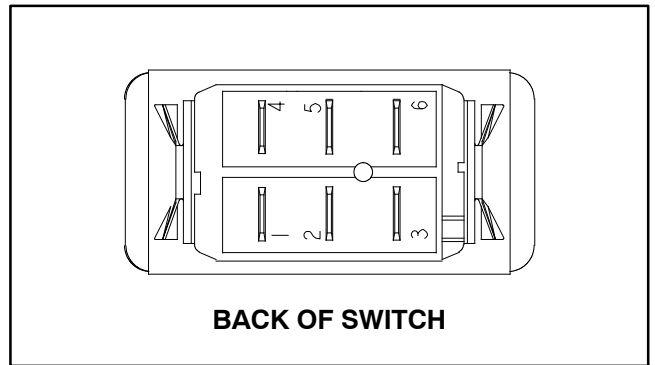

Figure 47
4. The switch terminals are marked as shown in Figure 47. The circuit logic of the wiper/washer switch is shown in the chart below. With the use of a multimeter (ohms setting), the switch functions may be tested to determine whether continuity exists between the various terminals. Verify continuity between switch terminals. Replace wiper/washer switch if testing identifies a faulty switch.